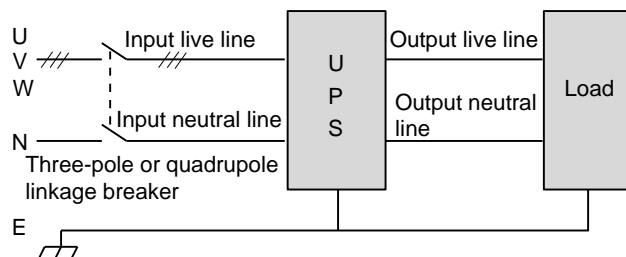

Figure 2-16 Correct power distribution method
4. Install a three-pole or quadropole linkage breaker on the mains input neutral line and live line to facilitate cutting power under emergency conditions. Use correct power distribution method (see Figure 2-16) to ensure safety of the UPS and user's equipment.